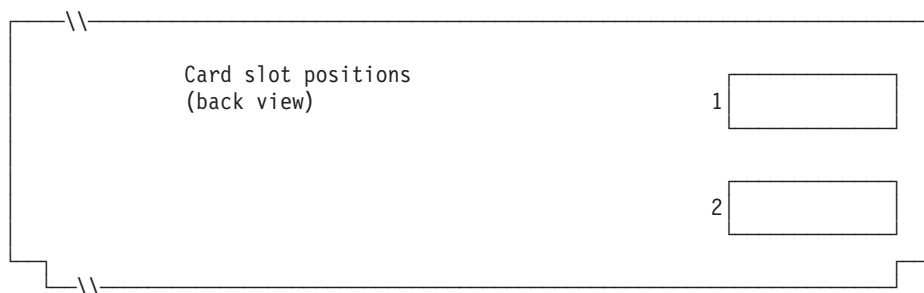

Figure 89. Rear of 4693-4x1 Point-of-Sale terminal
4. Mark an X on Figure 89 in each card slot that has a Dual Asynchronous Adapter installed **for use by terminal applications**. Do not mark an X if the card is to be used by applications other than terminal applications use .